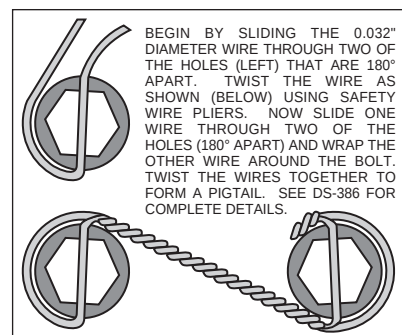

Figure 4. Safety Wire Diagram
- Attach rotor adapter (10) to rotor (11) using six bolts (12). Torque bolts (12 to 180 in-lb. Safety wire bolts (12) using standard 0.032 inch diameter stainless steel safety wire as shown in Figure 4. Please refer to Wilwood's data sheet DS-386 (available at www.wilwood.com/pdf/ds386.pdf) for complete safety wire installation instructions. **NOTE:** The flat side of the rotor (11) lugs face toward the rotor adapter (10) with the dished side of the rotor adapter (10) facing away from the rotor (11).
- Mount the adapter/rotor assembly (10 and 11) to the hub (7) using six bolts (13). Torque bolts (13) to 22 ft-lb. Safety wire bolts (13).
- Pack the small outer bearing cone (14) with high temperature disc brake bearing grease. Lightly coat the spindle bearing surfaces with bearing grease. Slide the hub/rotor assembly (7 and 11) with outer bearing cone (14) onto the spindle. Secure using spindle washer (15), existing adjusting nut and nut locking device. **NOTE:** Because of a tolerance variation among spindles, it may be necessary to install a shim washer (16) between the spindle washer (15) and the spindle nut if the spindle nut will not tighten down all the way. There are four supplied in the kit for your convenience.